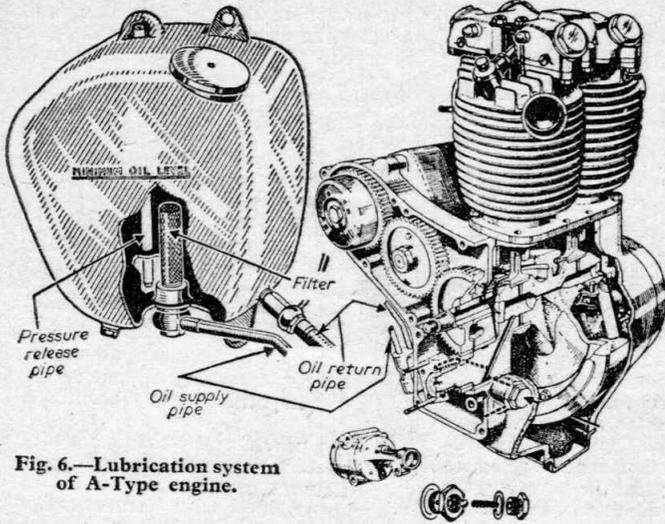

Fig. 6.—Lubrication system of A-Type engine.
Oil flows from the tank through the filter to the pressure or feed pump which then forces it via an automatic valve to the main bearing on the timing side, from which the feed goes through the hollow crankshaft to the big-end bearings. The pressure relief valve on the right of Fig. 6 maintains pressure at 50 to 60 lb. at the big-ends, and operates to allow surplus oil to flow into the bottom of the timing case.
Lubrication of the A-type engine is on the dry-sump principle with a separate oil tank. A double gear pump situated in the bottom of the timing case deals with supply and return flows through internal oilways and the pipes shown in Fig. 6, which indicates the pressure
While draining the oil is a good time to remove and clean the pressure release valve, Fig. 6, since any defect with this, such as wear, or small pieces of foreign matter preventing it seating properly, could result in a reduced supply of oil to the big-end bearings—and possibly rapid wear or failure. The whole valve may be removed for cleaning in petrol; and both threaded parts must be pulled tight when refitting. The valve is "pre-set" by the length and strength of the spring. This should not be altered—but in case of doubt renewed.
**T**HE oil tank, Fig. 6 (August issue), is drained, and the pipes are removed—the rocker supply pipe, however, being left attached to the engine.